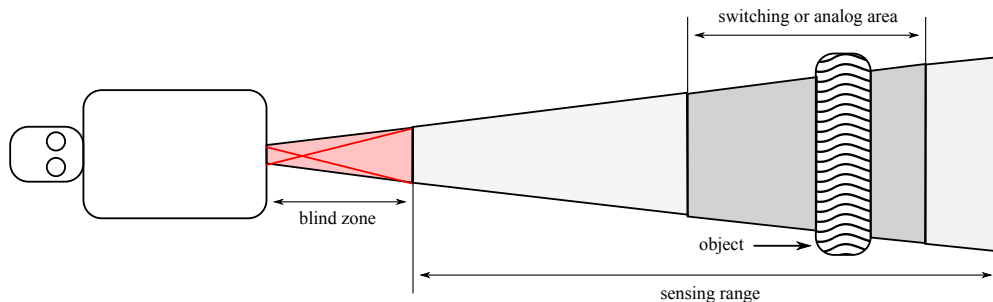

Figure 1: Sensing Range
- Within sensing range object detection area ends at (see Fig. 1)